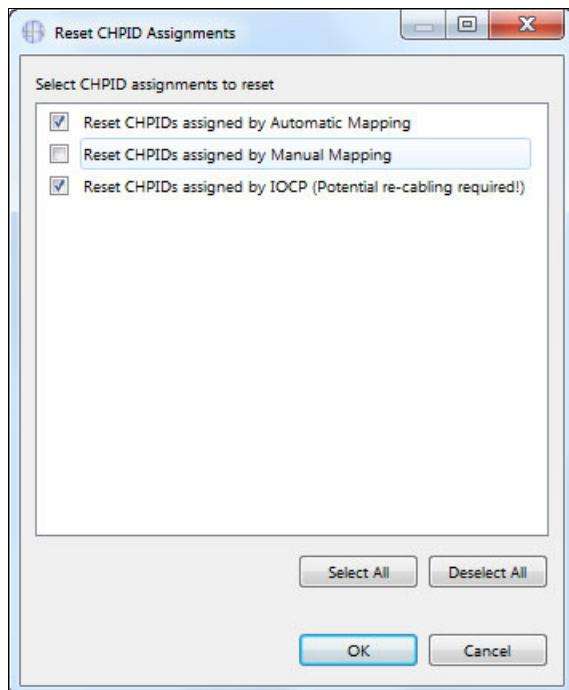

Figure 4-33 Reset CHPID Assignments
2. The Reset CHPID Assignments window opens with Reset choices (Figure 4-33). For the example, select the following two options and then click **OK**: